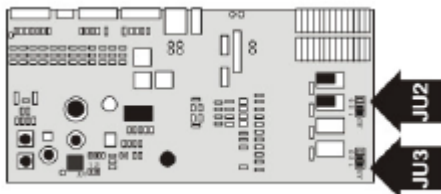

Figure 4 Location of JU3
- 3) and move the jumper for pins 2+3 on JU3 to pins 1+2 on JU3(see Fig 4)